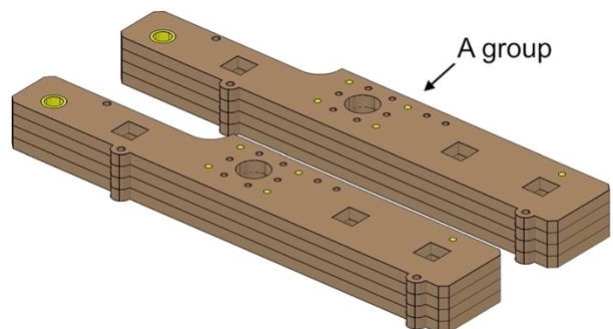

Fig. 4
- *Fig. 4* shows the completed process.